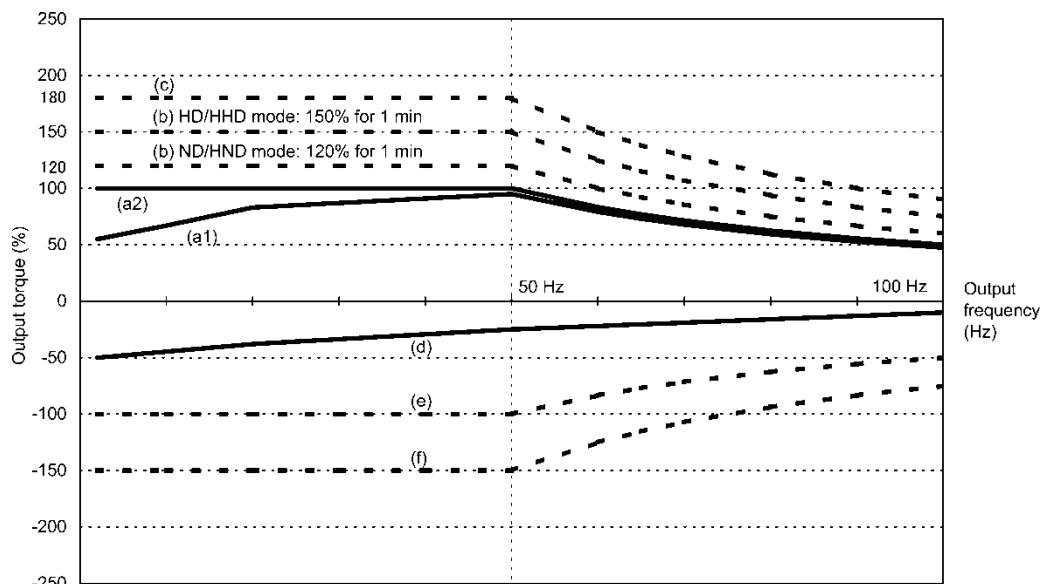
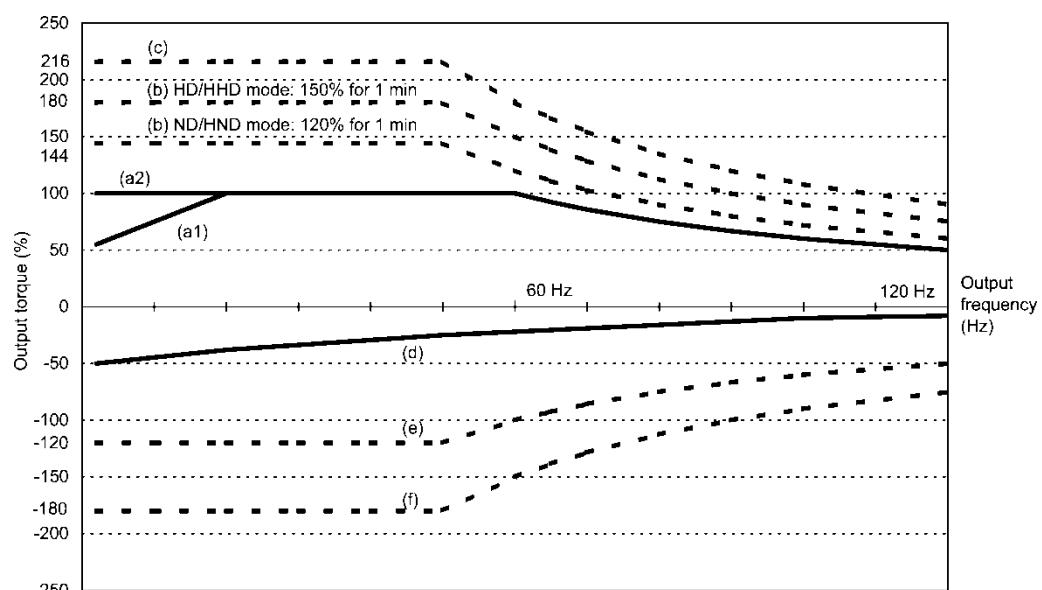

Figure 10.1-1 Output Torque Characteristics (Base frequency: 50 Hz)
Figure 10.1-2 Output Torque Characteristics (Base frequency: 60 Hz)
Figure 10.1-1 and Figure 10.1-2 graph the output torque characteristics of motors versus the output frequency for 50 Hz and 60 Hz base frequencies. The horizontal and vertical axes show the output frequency and output torque (%), respectively. Curves (a) through (f) depend on the running conditions.
(1) Continuous allowable driving torque
- ① Standard motor (Curve (a1) in Figure 10.1-1 and Figure 10.1-2)
- ② Motor exclusively designed for vector control (Curve (a2) in Figure 10.1-1 and Figure 10.1-2)
(2) Maximum driving torque in a short time (Curves (b) and (c) in Figure 10.1-1 and Figure 10.1-2)
(3) Starting torque (around the output frequency 0 Hz in Figure 10.1-1 and Figure 10.1-2)
(4) Braking torque (Curves (d), (e), and (f) in Figure 10.1-1 and Figure 10.1-2)